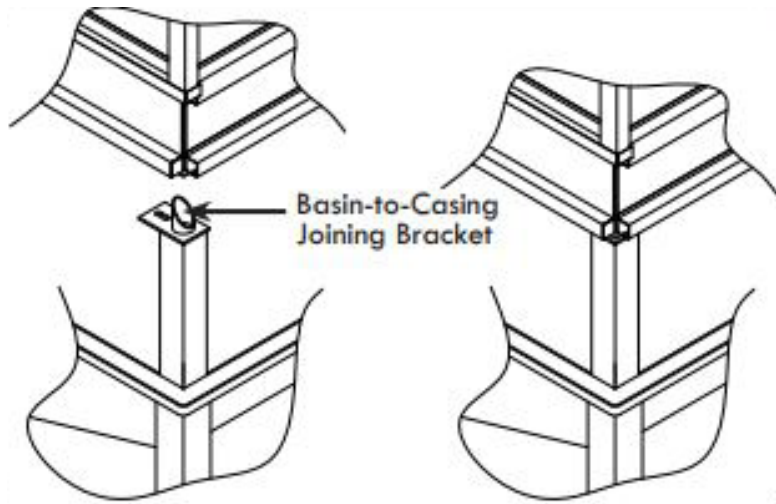

Figure 3a. Joining Casing to Basin section (HDG & SST coils)
4. Fasten the hardware between the upper casing and lower section per Figure 3a, Page 6 (for HDG & SST coils) and 3b, Page 6 (for copper coils).